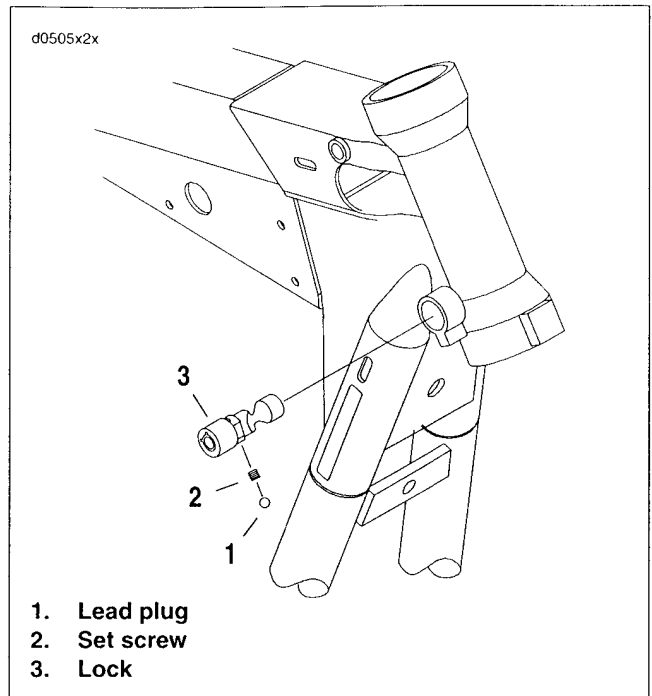

Figure 2-124. Fork Lock Installation
2. See Figure 2-124. Use a scribe and remove lead plug (1).
3. Remove set screw (2).
4. Insert key in lock (3) and turn partially.
4. See Figure 2-124. Apply LOCTITE THREADLOCKER 243 (blue) to set screw (2) and install.
5. Insert key in the lock (3) and tighten set screw until lock begins to bind; then back set screw out 1/2 turn.
6. Pound in lead plug (1) or use a good quality sealant.